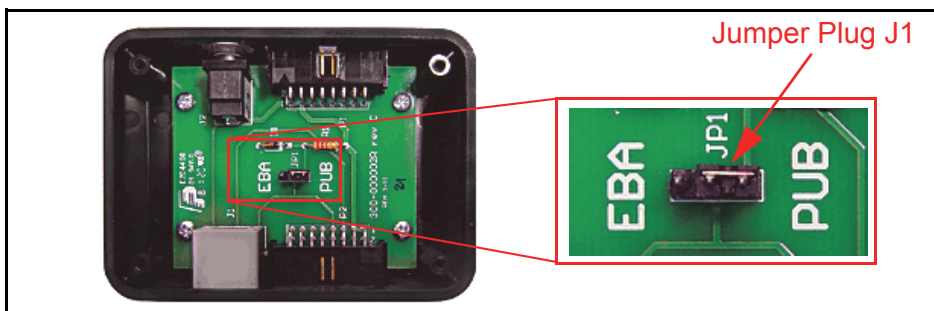

Figure 4 PUB/EBA Adapter Internal Jumper JP1 Location
2. The Figure 4 photo indicates the location of internal Jumper JP1. If working with an EBA-3X Series Validator, position the Jumper Plug onto the two left-side Pins where the Circuit Board Silk-screen Text indicates “EBA”.
**NOTE:** The Figure 4 Photo shows the Jumper Plug set for use with a PUB 7/11 Validator